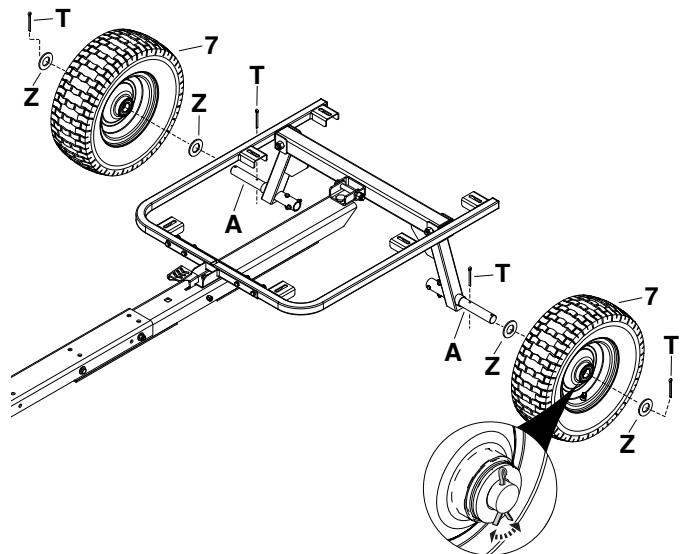

FIGURE 12
- Install a 3/16" x 2" cotter pin (T) into the inner hole of the axle (A) (Hole nearest the frame). Split the ends of the cotter pin. Repeat on the other side.
- Install a 2" washer (Z) onto the axle (A) up against the cotter pin just installed on each side.
- Install the wheel & tire assembly (7) on the axle (A). Making sure the valve stem is facing outwards. Repeat on other side.
- Install a 2" washer (Z) onto the axle (A) up against the wheel & tire assembly (7) just installed on each side.
- Install a 3/16" x 2" cotter pin (T) into the outer hole of the axle (A). Split the ends of the cotter pin. Repeat on the other side. See figure 12.